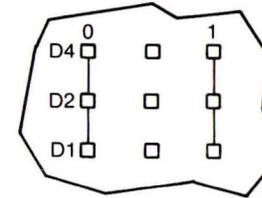

FIGURE 3-13. DRIVE SELECT DECODE
3. Install nine terminal posts (Memorex PN 159163) at the D1, D2, D4, 0, and 1 matrix. See Figure 3-13.